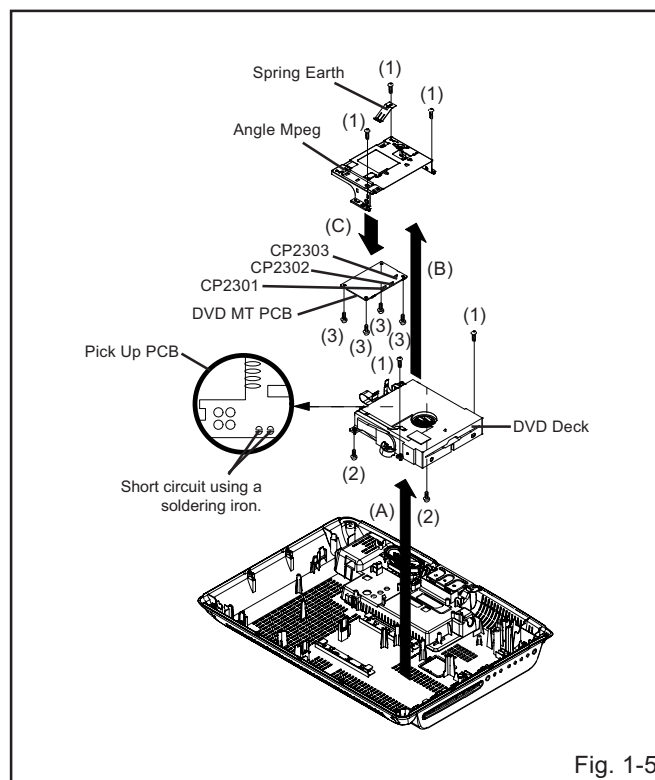

Fig. 1-5
1-5: DVD DECK (Refer to Fig. 1-5)
1. Short circuit the position shown in Fig. 1-5 using a soldering iron. If you remove the DVD Deck with no soldering, the Laser may be damaged.
2. Remove the 5 screws (1).
3. Remove the DVD Deck in the direction of arrow (A).